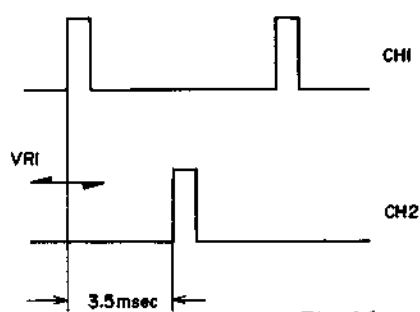
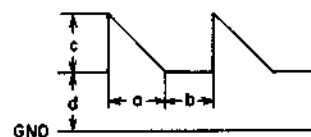

Fig. 16
Fig. 17
- d) Connect the oscilloscope's CH-1 to P5-② and CH-2 to P5-③.
- f) Adjust the VR2 (20 k $\Omega$ ) so that the phase different between CH-1 and CH-2 is 3.5 msec as shown in Fig. 16.
- g) Connect the oscilloscope to P5-④.
- h) Adjust VR1 (500 k $\Omega$ ) and VR2 (20 k $\Omega$ ) so that the a=b and c=d as shown in Fig. 17.